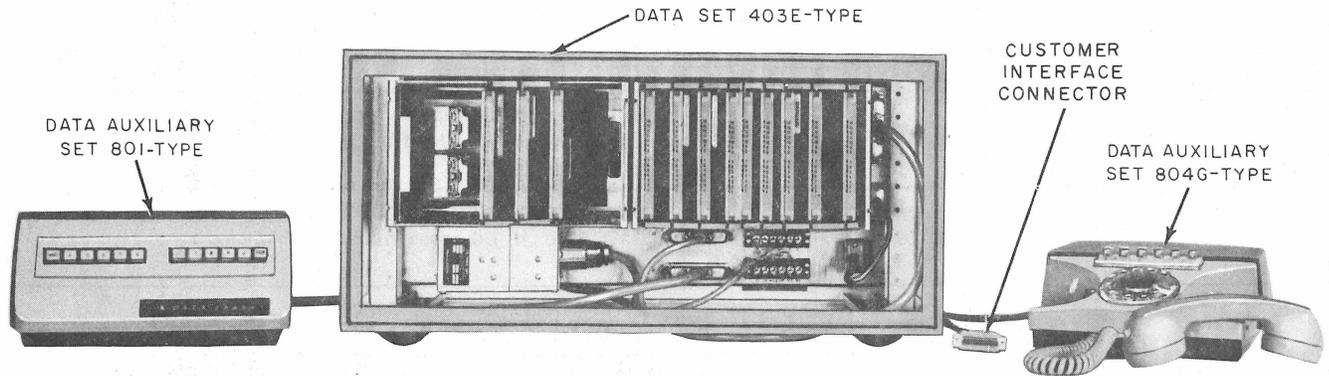

Fig. 4—Data Set 403E-Type With Associated Data Auxiliary Sets 804G-Type and 801-Type
**4.01** The operation of a DS 403E-type installation may be made completely automatic for both calling and answering by the addition of a DAS 801-type ACU (Fig. 4). Manual control of the data